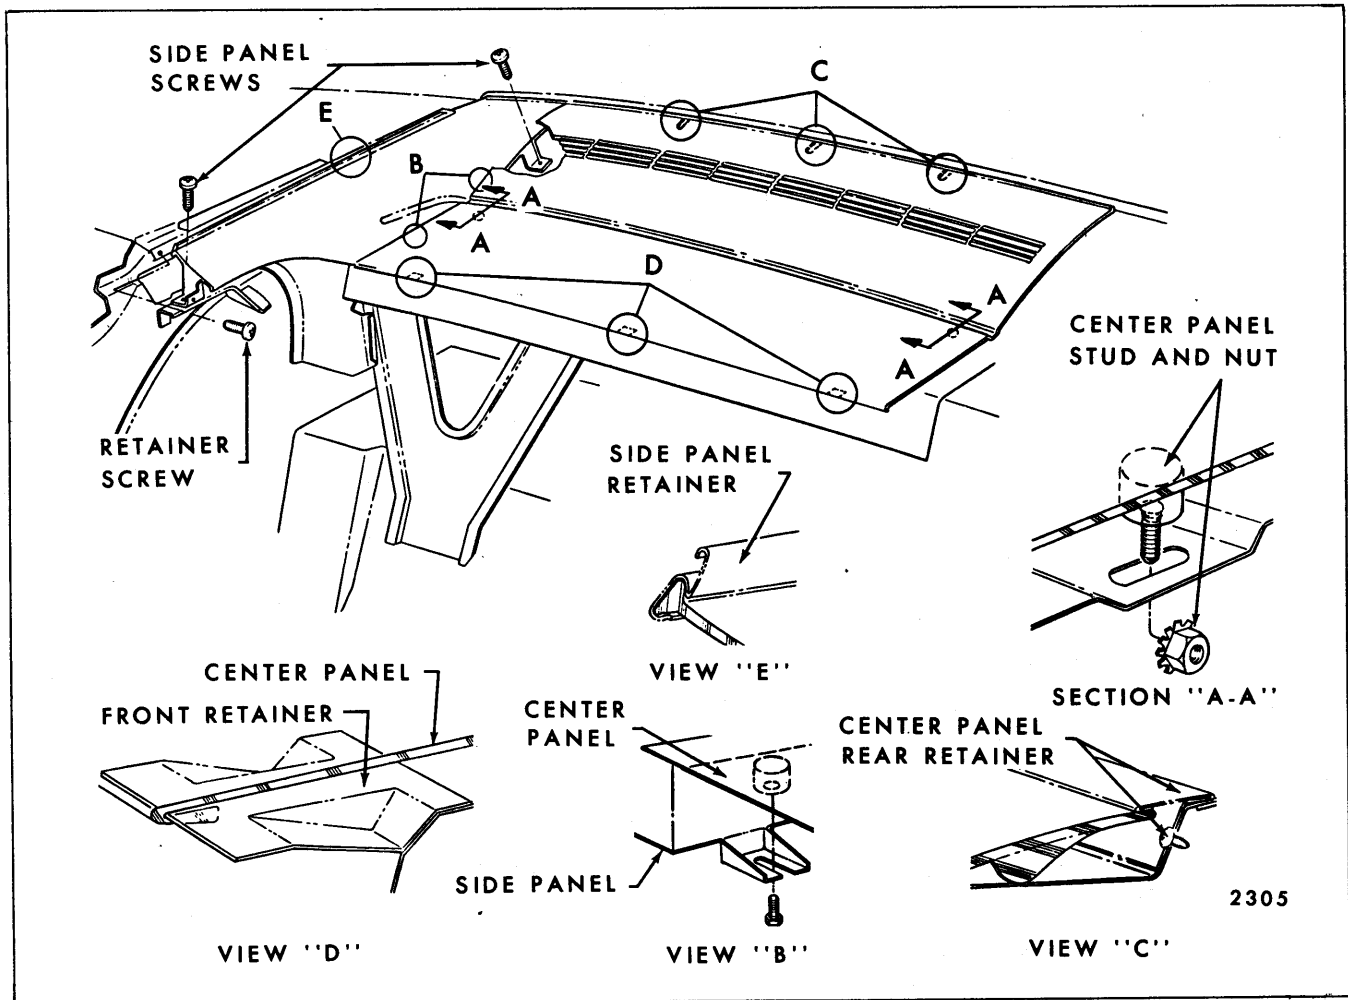

Fig. 14-34—Typical "E" Style Compartment Shelf Trim - Buick "E" Style Shown
2. From inside rear compartment, remove compartment shelf center finishing panel attaching nuts at locations shown in Section "A-A" in Figure 14-34.
3. From inside body, pull center finishing panel forward sufficiently to disengage both front and rear edge of center finishing panel from retainers (see View "B", Fig. 14-34); then, lift panel upward and remove from shelf panel.